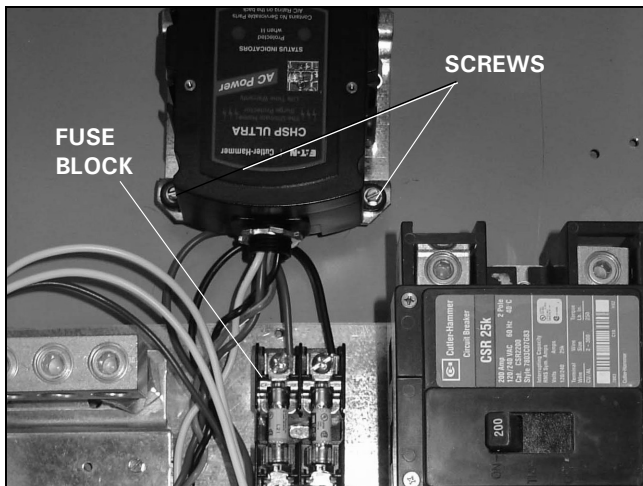

Figure 60. TVSS Mounting Screws and Fuse Block Location.
Step 2: Remove the two (2) screws securing the TVSS to its mounting bracket using a blade screwdriver or 0.25 in. nut driver (See Figure 60).